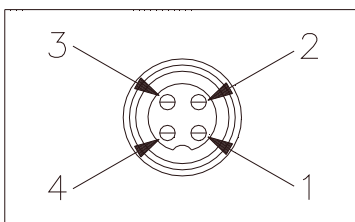

Fig. 3 Microphone plug pin numbers viewed from rear of pin receptacle.
5. The wires must now be soldered to the pins as indicated in the above wiring tables. If a vise or clamping tool is available it should be used to hold the pin receptacle body during the soldering operation, so that both hands are free to perform the soldering. If a vise or clamping tool is not available, the pin receptacle body can be held in a stationary position by inserting it into the microphone jack of the front panel. The numbers of the pins of the microphone plug are shown in Fig. 3, as viewed from the back of the plug. Before soldering the wire to the pins, pre-tin the wire receptacle of each pin of the plug.